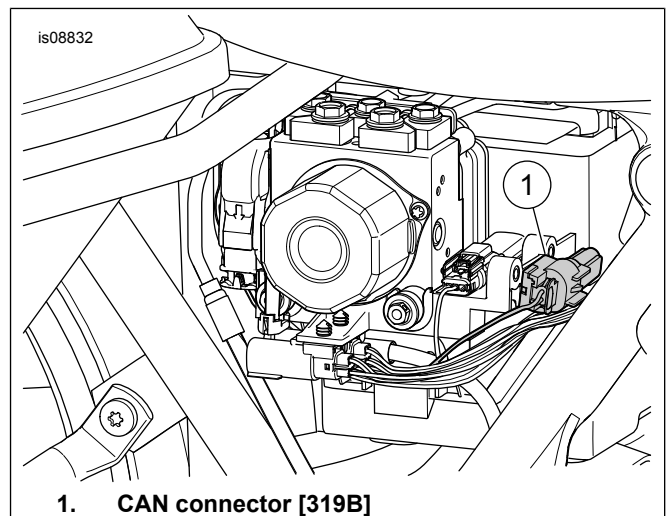

Figure 3. CAN Connector [319B], Under Right Side Cover
- c. See Figure 3. Locate the 2-way Delphi CAN connector [319B] (1) under the right side cover.